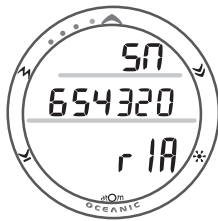

Fig. 67 - SERIAL NUMBER
- Depressing the A and S buttons simultaneously for 8 seconds while viewing the NORM SURF MAIN screen will access the ATOM's SERIAL NUMBER screen displaying (Fig. 67):